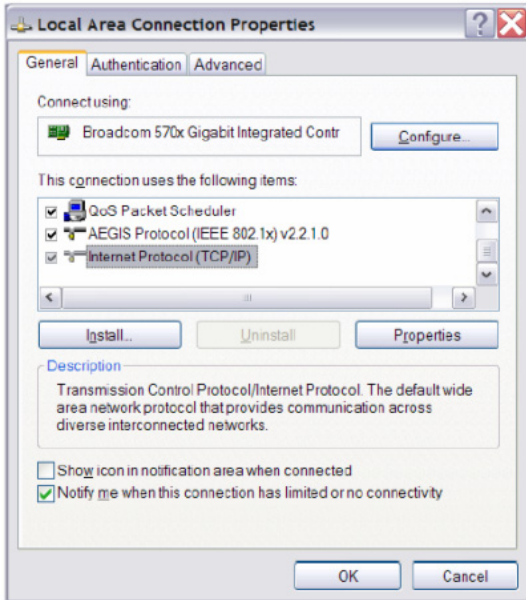

Figure 2
In XP Professional - Go to the **START** menu in the left corner, select "**Settings**", "**Control Panel**" and then (if in classic view) "**Network Connections**". If the "**Control Panel**" is in "**Category view**" choose "**Network and Internet Connections**" and then "**Network Connections**". (Fig 2).
2. Select "**Local Area Connection**". Select "**Properties**" from the File menu or by right-clicking on the selected icon. In the pop-up window, select "**Internet Protocol**" (TCP/IP) and hit Enter/OK. (Fig 2).